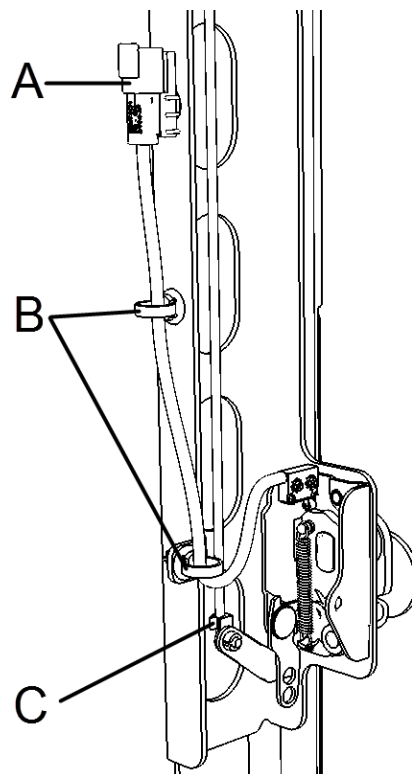

Figure 3
3. Prepare latch for disassembly. (Figure 3)
6. Plug connector to door harness (A, Figure 3)
(B, Figure 3)